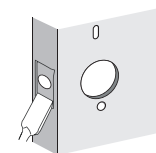

Figure 3f
- Chisel 0.12" (3mm) deep or until deadbolt face is flush with door edge (Figure 3f).